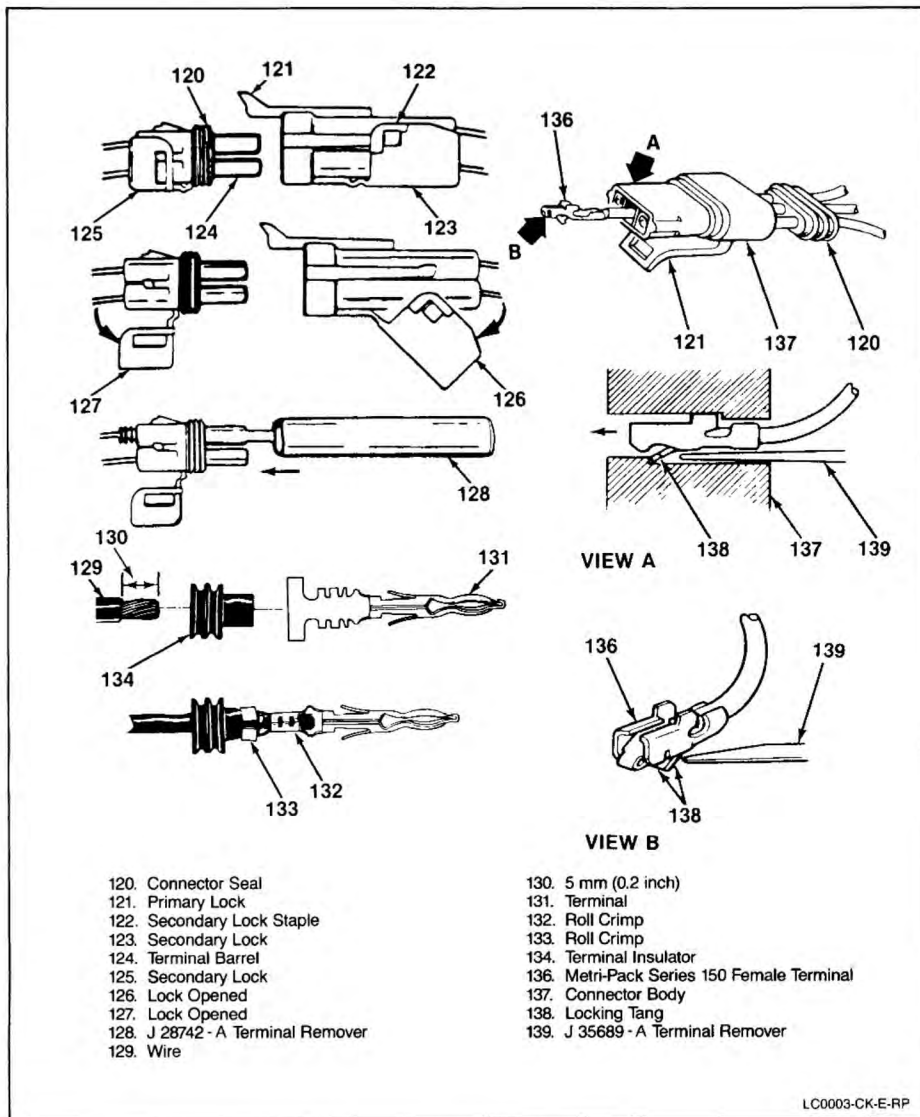

Figure 16—Weather-Pack and Metri-Pack Connectors
Special connectors known as Weather-Pack connectors (Figure 16) require a special tool J 28742-A for servicing. This special tool is required to remove the pin and sleeve terminals. If removal is attempted with an ordinary pick, there is a good chance that the terminal will be bent or deformed. Unlike standard blade-type terminals, these terminals cannot be straightened once they are bent.
The Metri-Pack connectors use a pull-to-seat type terminal, as shown in Figure 16. Special tools are required to remove the terminals. If removal is attempted with an ordinary pick, there is a good chance that the terminal will be bent or deformed. Refer to Figure 16.
#### ↔ Remove or Disconnect (Figure 16)
#### ↔ Install or Connect (Figure 16)
1. Primary lock (121) by lifting.
2. Connector body (137).
3. Connector seal (120) by pulling the seal back onto the wires away from the connector body (137).
4. Terminal (136) by inserting J 35689-A (139) into the connector body (137) to depress the locking tang (138), then push the wire and terminal through the connector body (Figure 16).
5. 5 mm (0.2-inch) of the wire insulation (130).